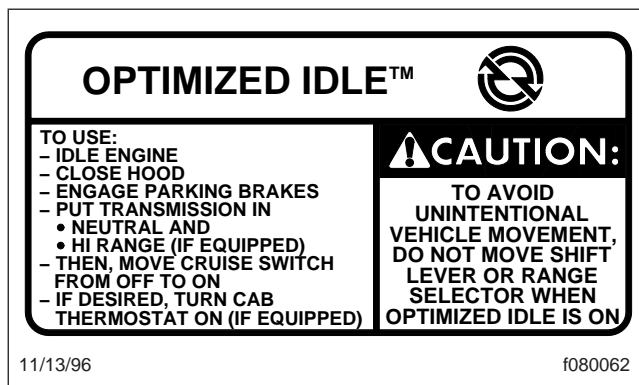
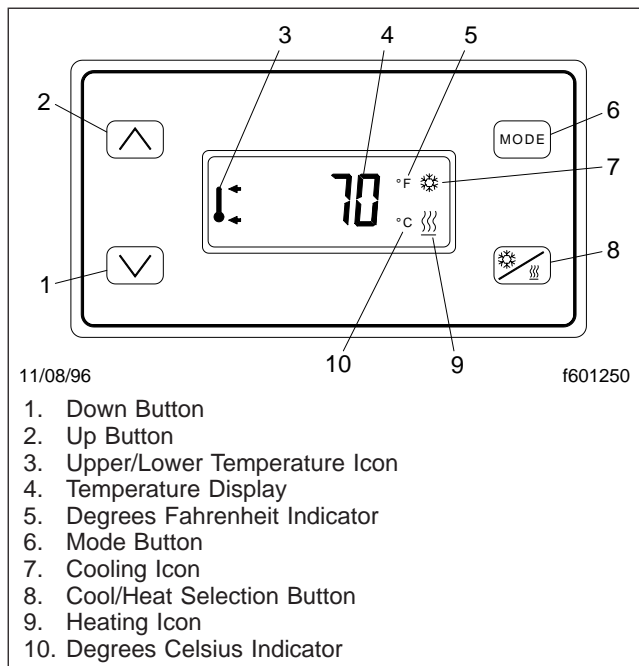

Fig. 7.8, Optimized Idle Dash Label
Fig. 7.9, Optimized Idle Thermostat
Vehicles equipped with Optimized Idle have a label and light on the dashboard. The dash light is the bottom one on the vertical array of lights in the center dash panel, and the label is located on the "B" dash panel. See Fig. 7.8 for the label appearance. If equipped with the thermostat mode, a thermostat is located in the sleeper, above the bunk. See Fig. 7.9.
- 2.2 Turn on the thermostat by touching any of the four buttons. See Fig. 7.9.